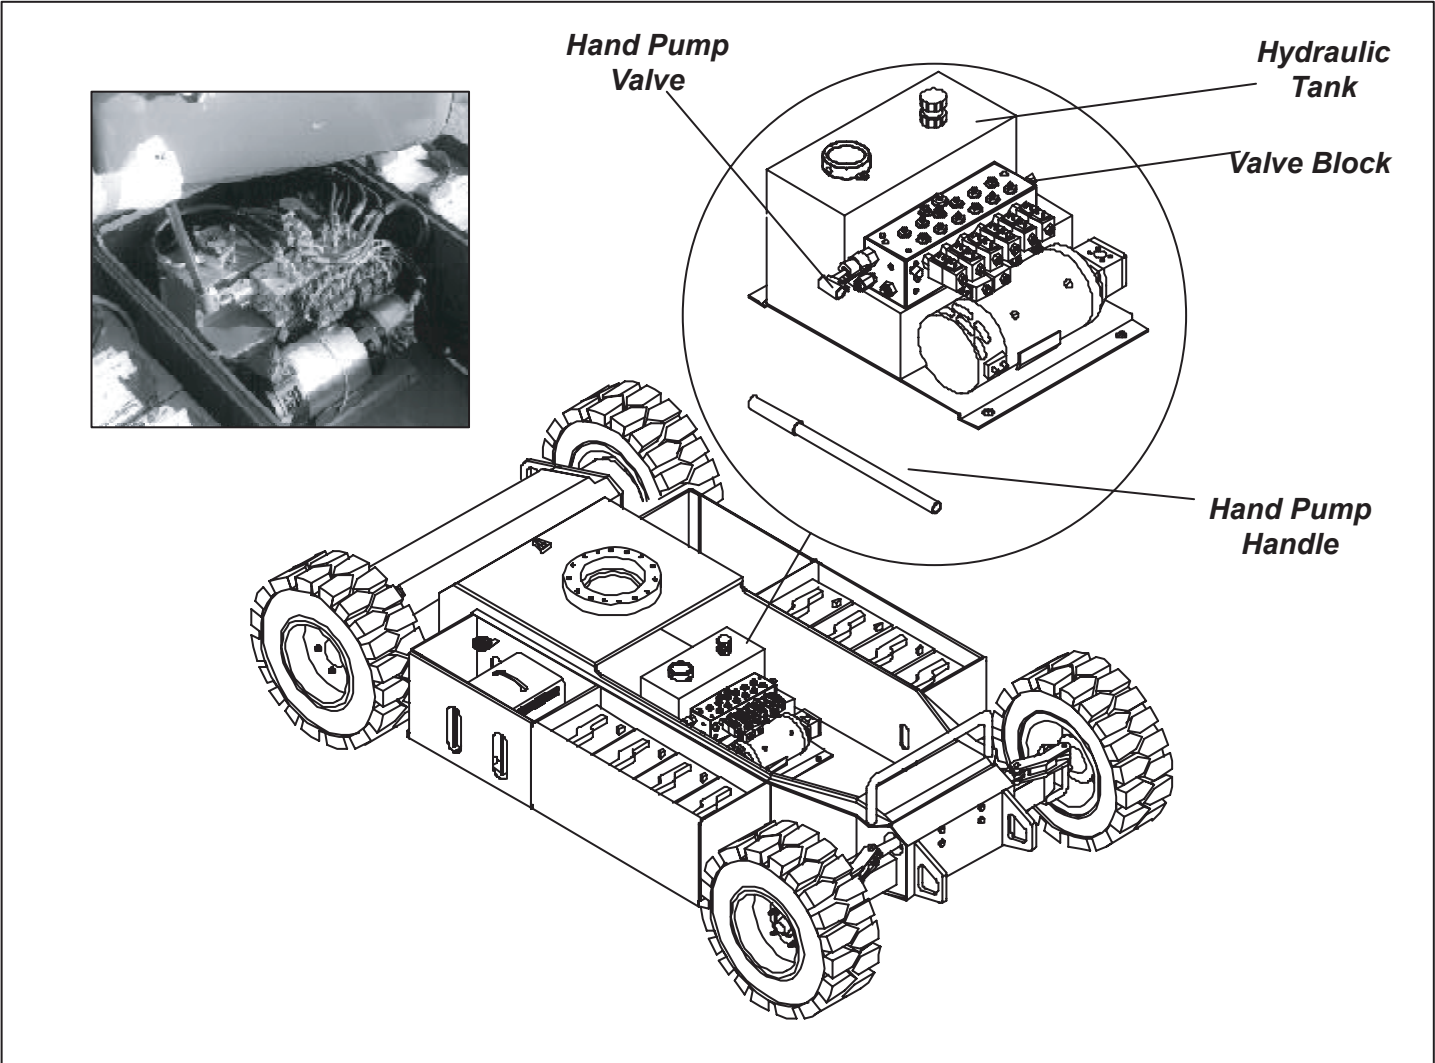

Figure 3-5: Manual Telescopic Retraction
MANUAL TELESCOPIC RETRACTION (SEE FIGURE 3-5)
2. The Handpump is attached to the Main Manifold Block. Remove the Handpump Handle from the clips on the side of the Chassis and insert into the Handpump Valve as shown in Figure 3-5.